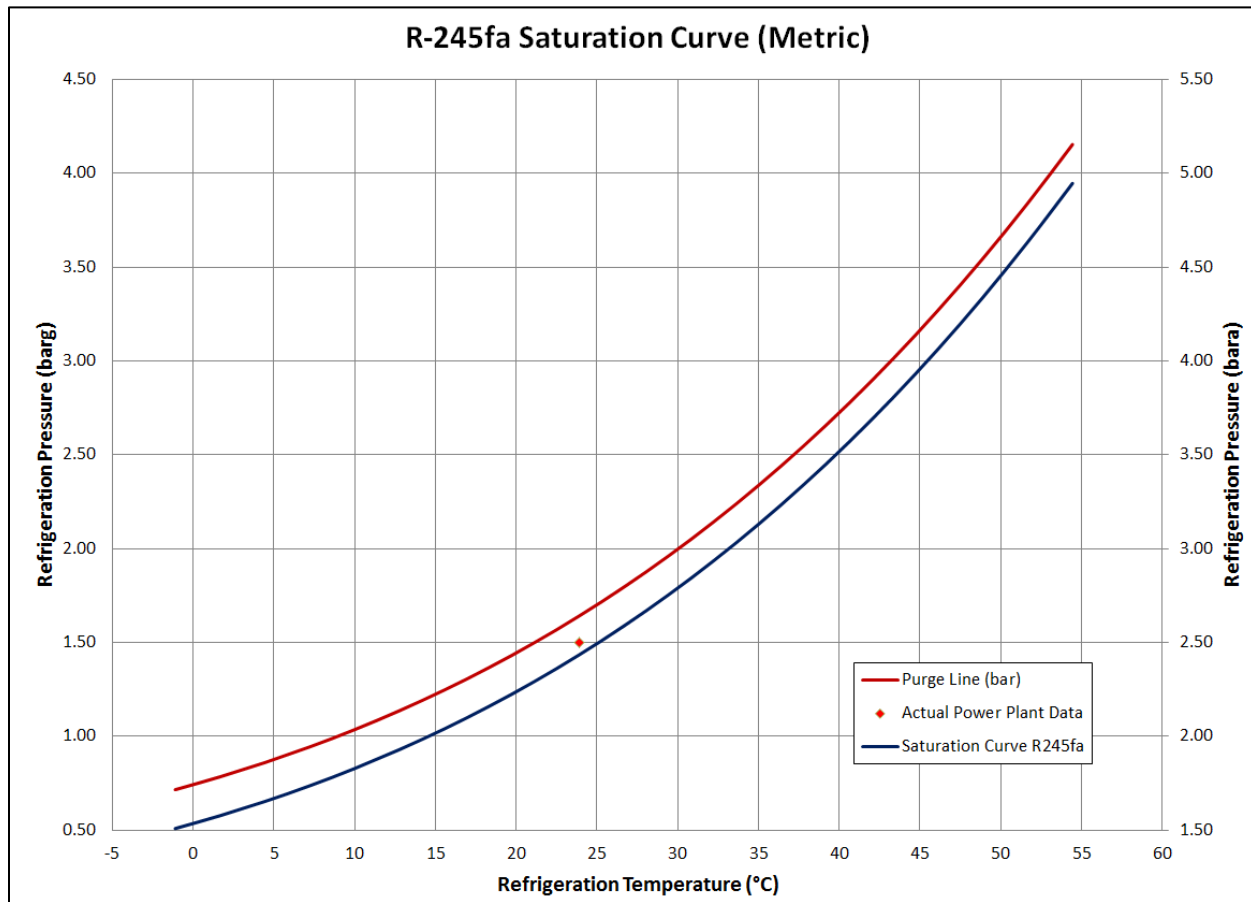

FIGURE 1.13-1: WORKING FLUID SATURATION CURVE
- 4) Plot the point on Figure 1.13-1.